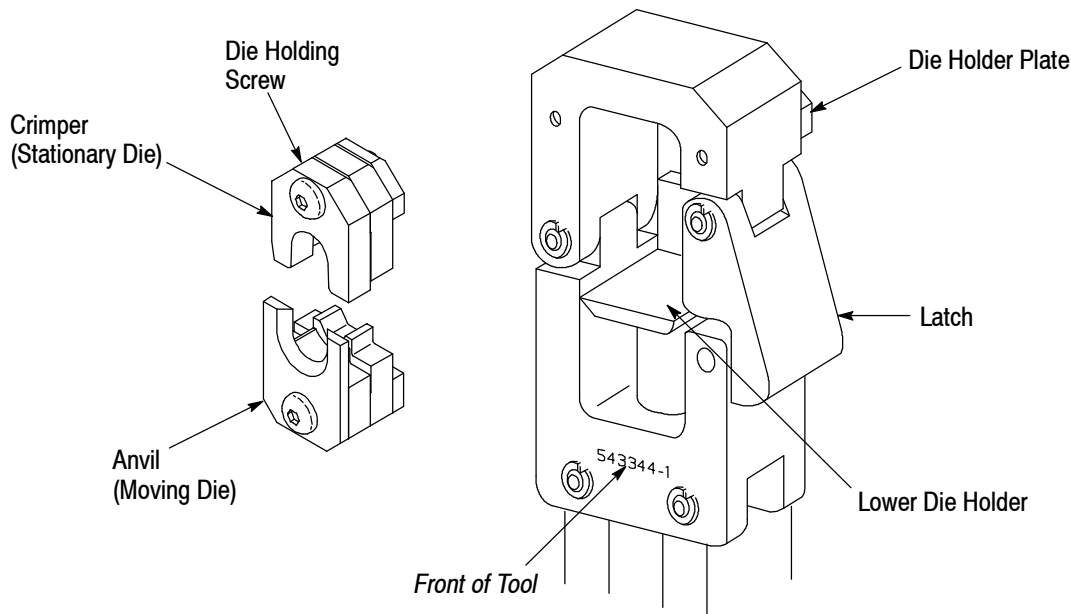

Figure 2
3.1. Installation (Refer to Figure 2)
Each set of dies consists of an anvil (moving die) and a crimper (stationary die). Most moving dies have square corners and the stationary dies have chamfered corners. Refer to Figure 2. Exceptions to this feature will be shown on the instruction sheet packaged with the dies.